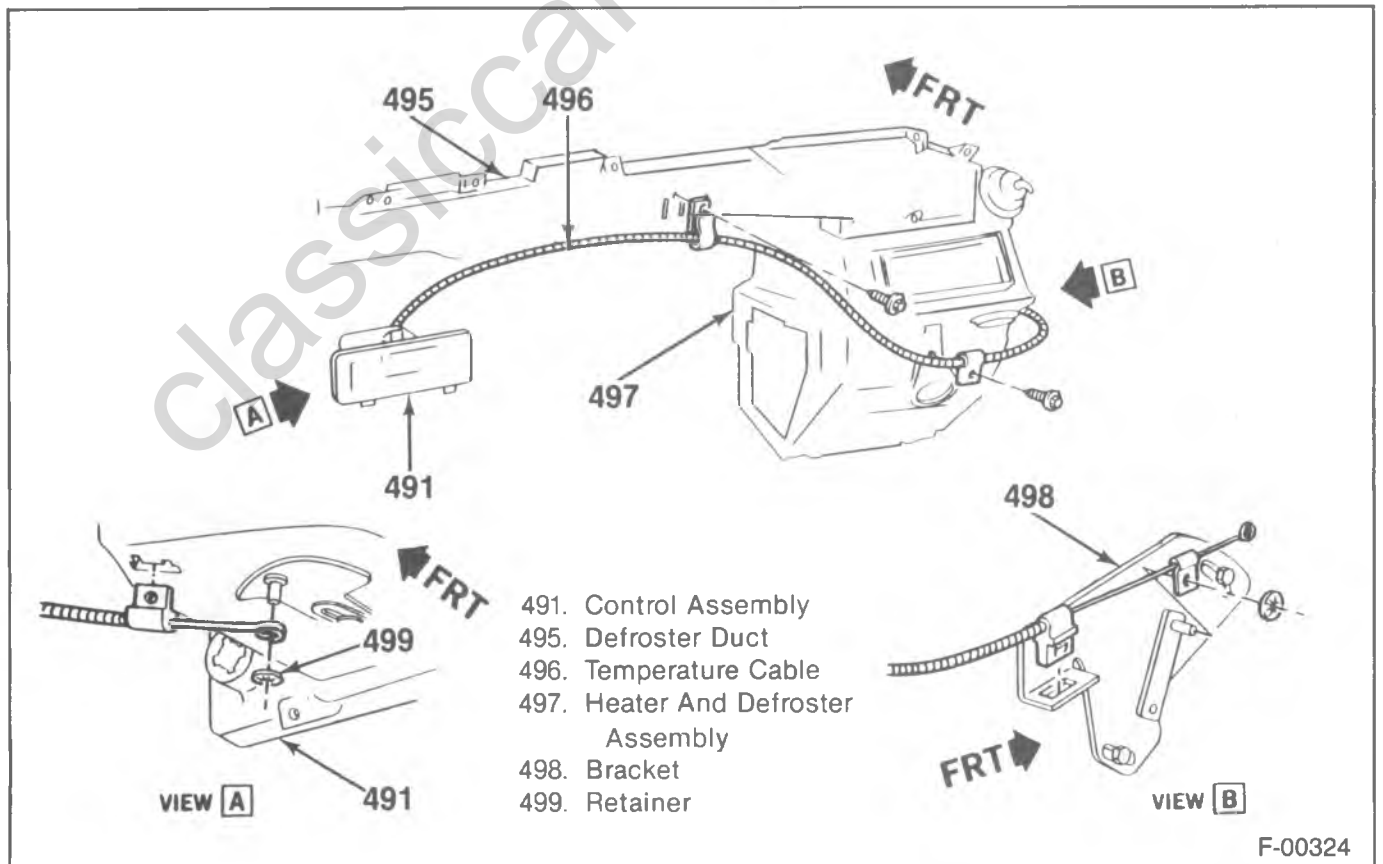

Figure 57—Temperature Control Cable
- Temperature cable eyelet clip and retainer (499) (figure 57).
To remove the temperature door cable refer to "Control Assembly Replacement" and figure 57.